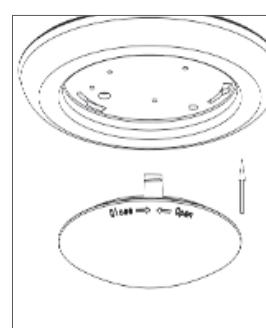

FIGURE 6
G) Reinstall lens and turn clockwise  to lock the lens on fixture. (Figure 6)